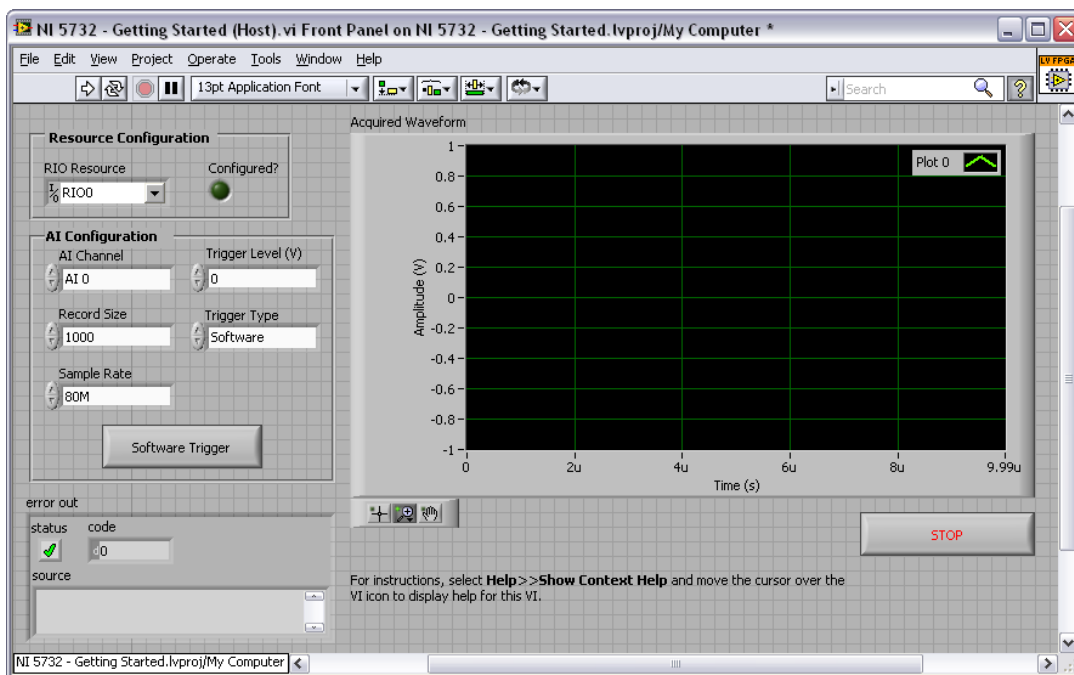

Figure 5. NI-573x - Getting Started (Host) VI Front Panel
13. Click the **Software Trigger** button if you selected **Software Trigger** in the **Trigger Type** control. The VI acquires data and displays the captured waveform on the **Acquired Waveform** graph as shown in Figure 5.